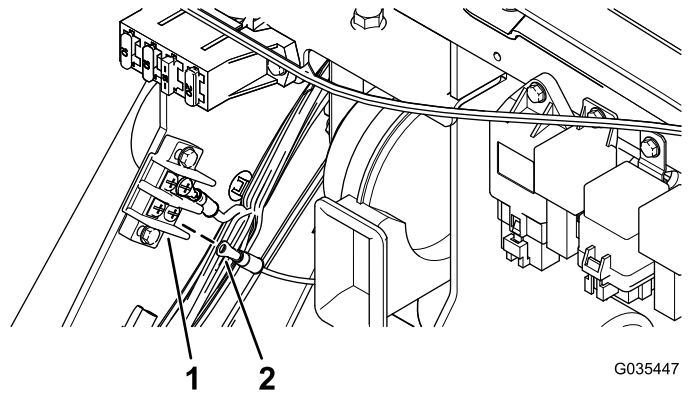
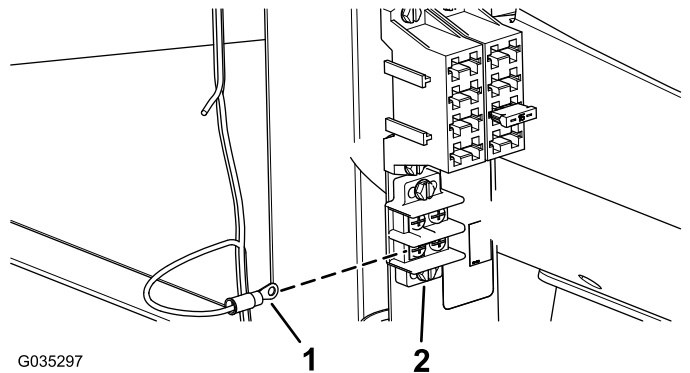

Figure 12
Figure 13
2. Connect the wire-harness-terminal ring to the ground-block terminal (Figure 12 or Figure 13).